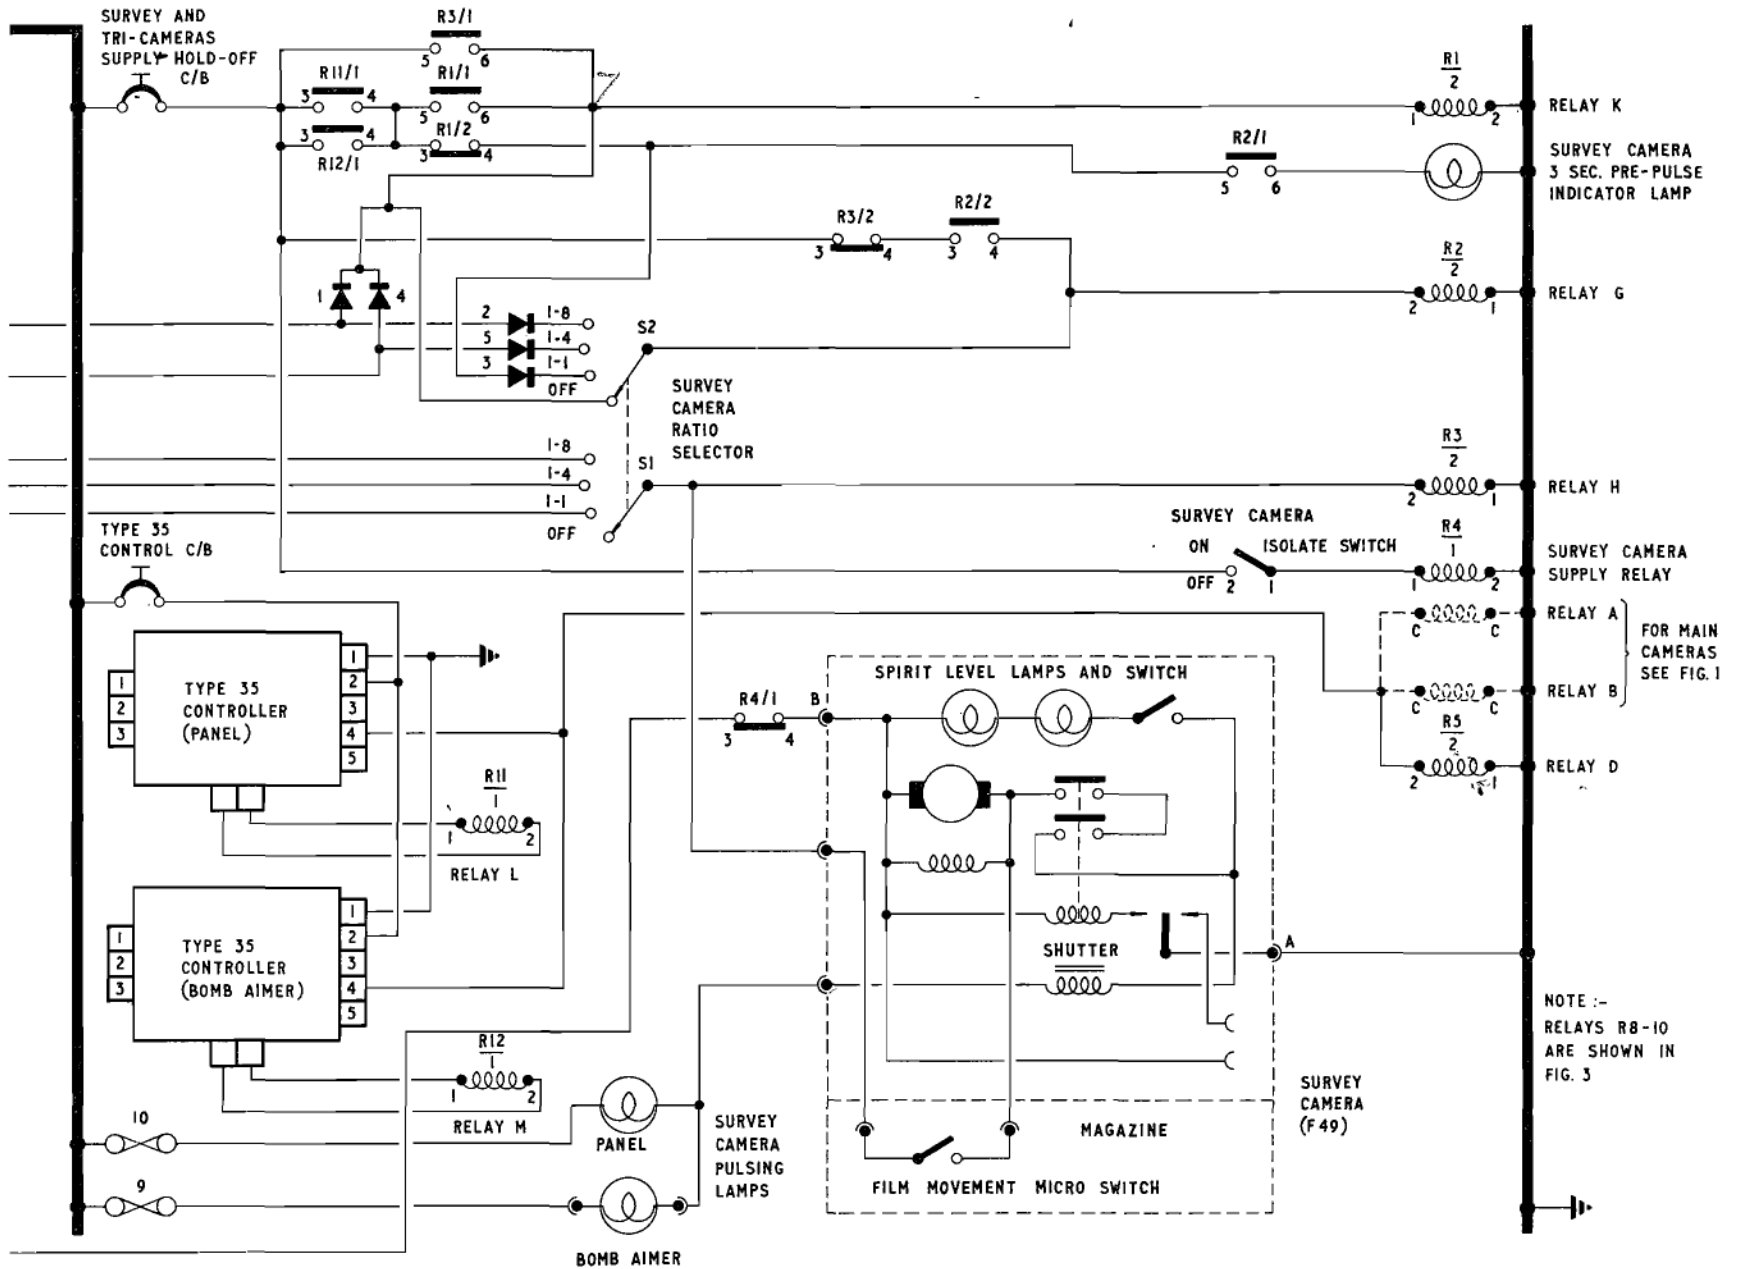
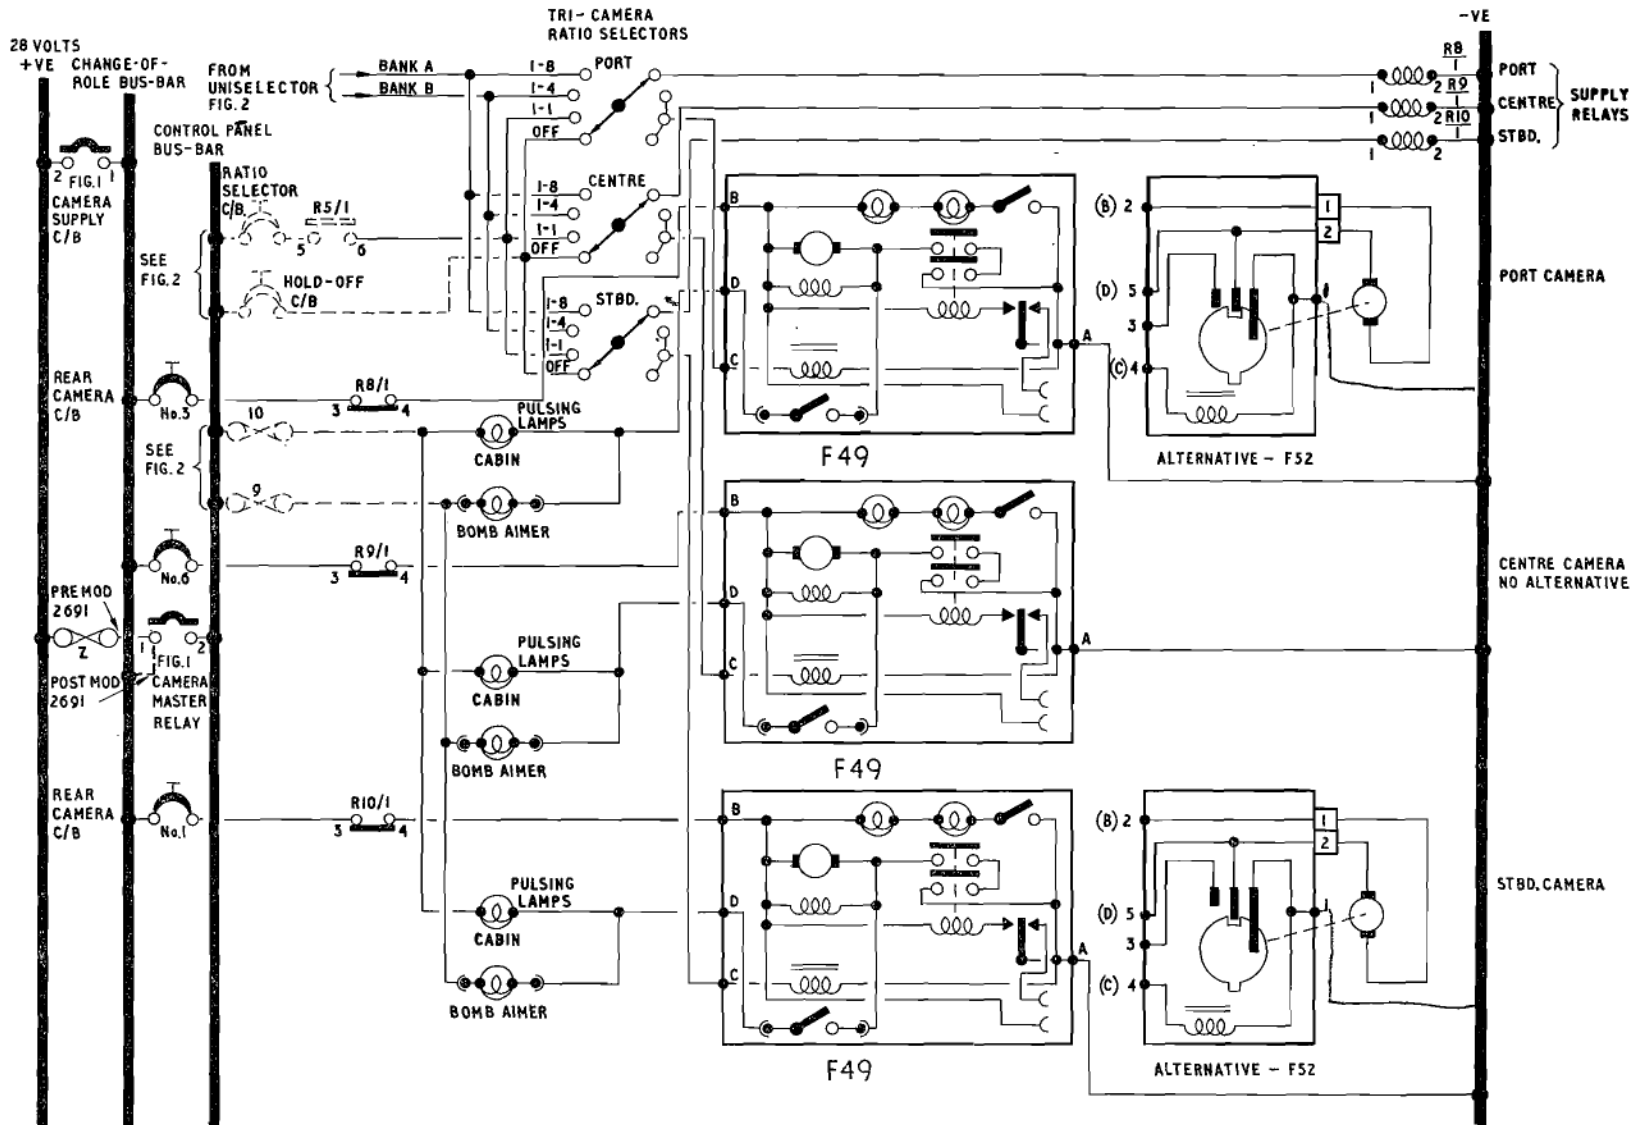

Fig. 2(2). Uniselector and survey camera (post Mod. 2099, 2122 and 2906)
Fig. 3. Tri-cameras
TRI-INSTALLATION AND SURVEY CAMERAS (fig. 2 and 3)
19. None of the cameras can operate until the camera window doors have been opened and selections have been made on the ratio selectors. The individual tri-camera RATIO SELECTOR switches each have an OFF position and the survey camera has a separate ISOLATE switch so that when any of these switches is selected OFF, a supply, from a circuit-breaker on the control panel, is connected to the coils (R4 on fig. 2, R8, R9 and R10 on fig. 3) of the associated camera supply relays, Type Q3. The relays for the side oblique and survey cameras are in the rear cameras junction box, and the relay for the centre tri-camera is in the camera crate junction box. When any relay is energized, its contacts are opened and the supply to the relative camera motor is broken. The cameras are controlled by either one of the two Type 35, No. 16 controllers; the circuits for connecting all the power supplies are described in para. 9 to 13.
SURVEY CAMERA PRE-PULSE**-WARNING (fig. 2)**
1 : 1 ratio (fig. 2)
1 : 4 or 1 : 8 ratio (fig. 2)